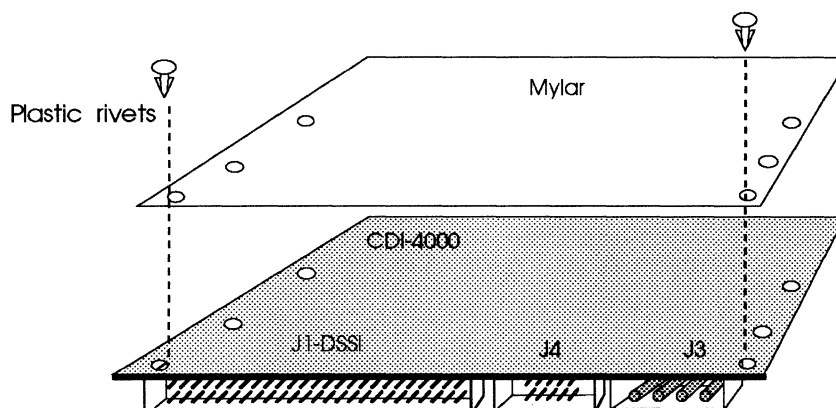

Figure 4-21: Mounting mylar for CDI-4000-SA2
- 3 Put the mylar on the solder side of the CDI-4000 and put two plastic rivets into the CDI-4000 through the mylar. See Figure 4-21.